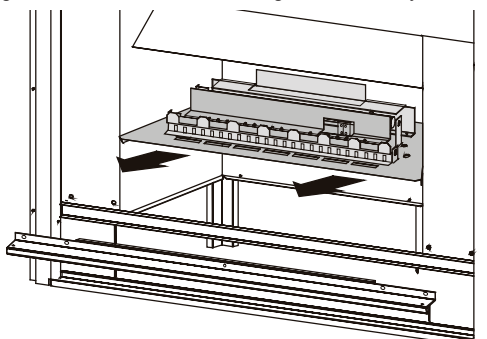

Figure 14. Removing the old burner assembly.
4. Disconnect the gas supply line from the control valve under the fireplace. Remove the two screws located at bottom rear of burner pan. Disconnect the primary spill switch from the gas valve. Leave the primary spill switch in it's location, as it must be re-wired to complete the new burner assembly installation. Lift the complete burner assembly, up and out of unit to clear support ledge. See figure 14. Remove the existing fan assembly, if installed.